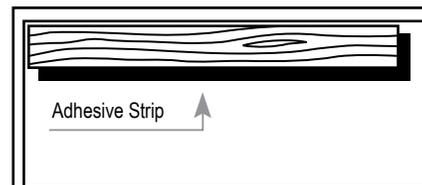

Fig. 1
- Lay the first row of planks along the wall starting in the left corner with the adhesive strips facing out away from the walls (Fig. 1).